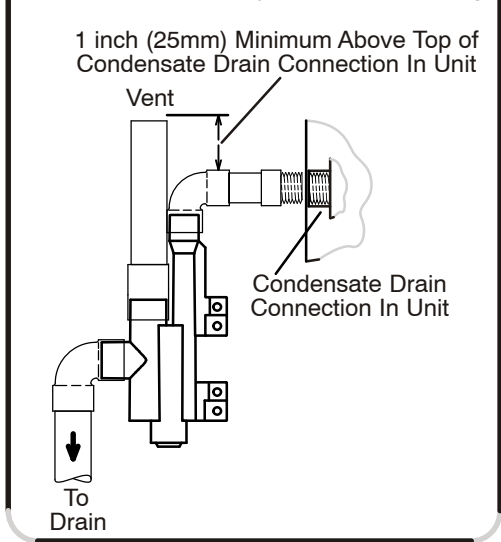

FIGURE 50
This unit is designed for either right- or left-side exit of condensate piping in upflow applications. In horizontal applications, the condensate trap must extend below the unit. An 8" service clearance is required for the condensate trap. Refer to figure 46 for condensate trap locations. Figure 50 shows trap assembly using 1/2" PVC or 3/4" PVC.
- 3 - Install the cap over the clean out opening at the base of the trap. Secure with clamp. See figure 50.
- 4 - Install drain trap using appropriate PVC fittings, glue all joints. Glue the provided drain trap as shown in figure 50. Route the condensate line to an open drain. Condensate line must maintain a 1/4" downward slope from the furnace to the drain.